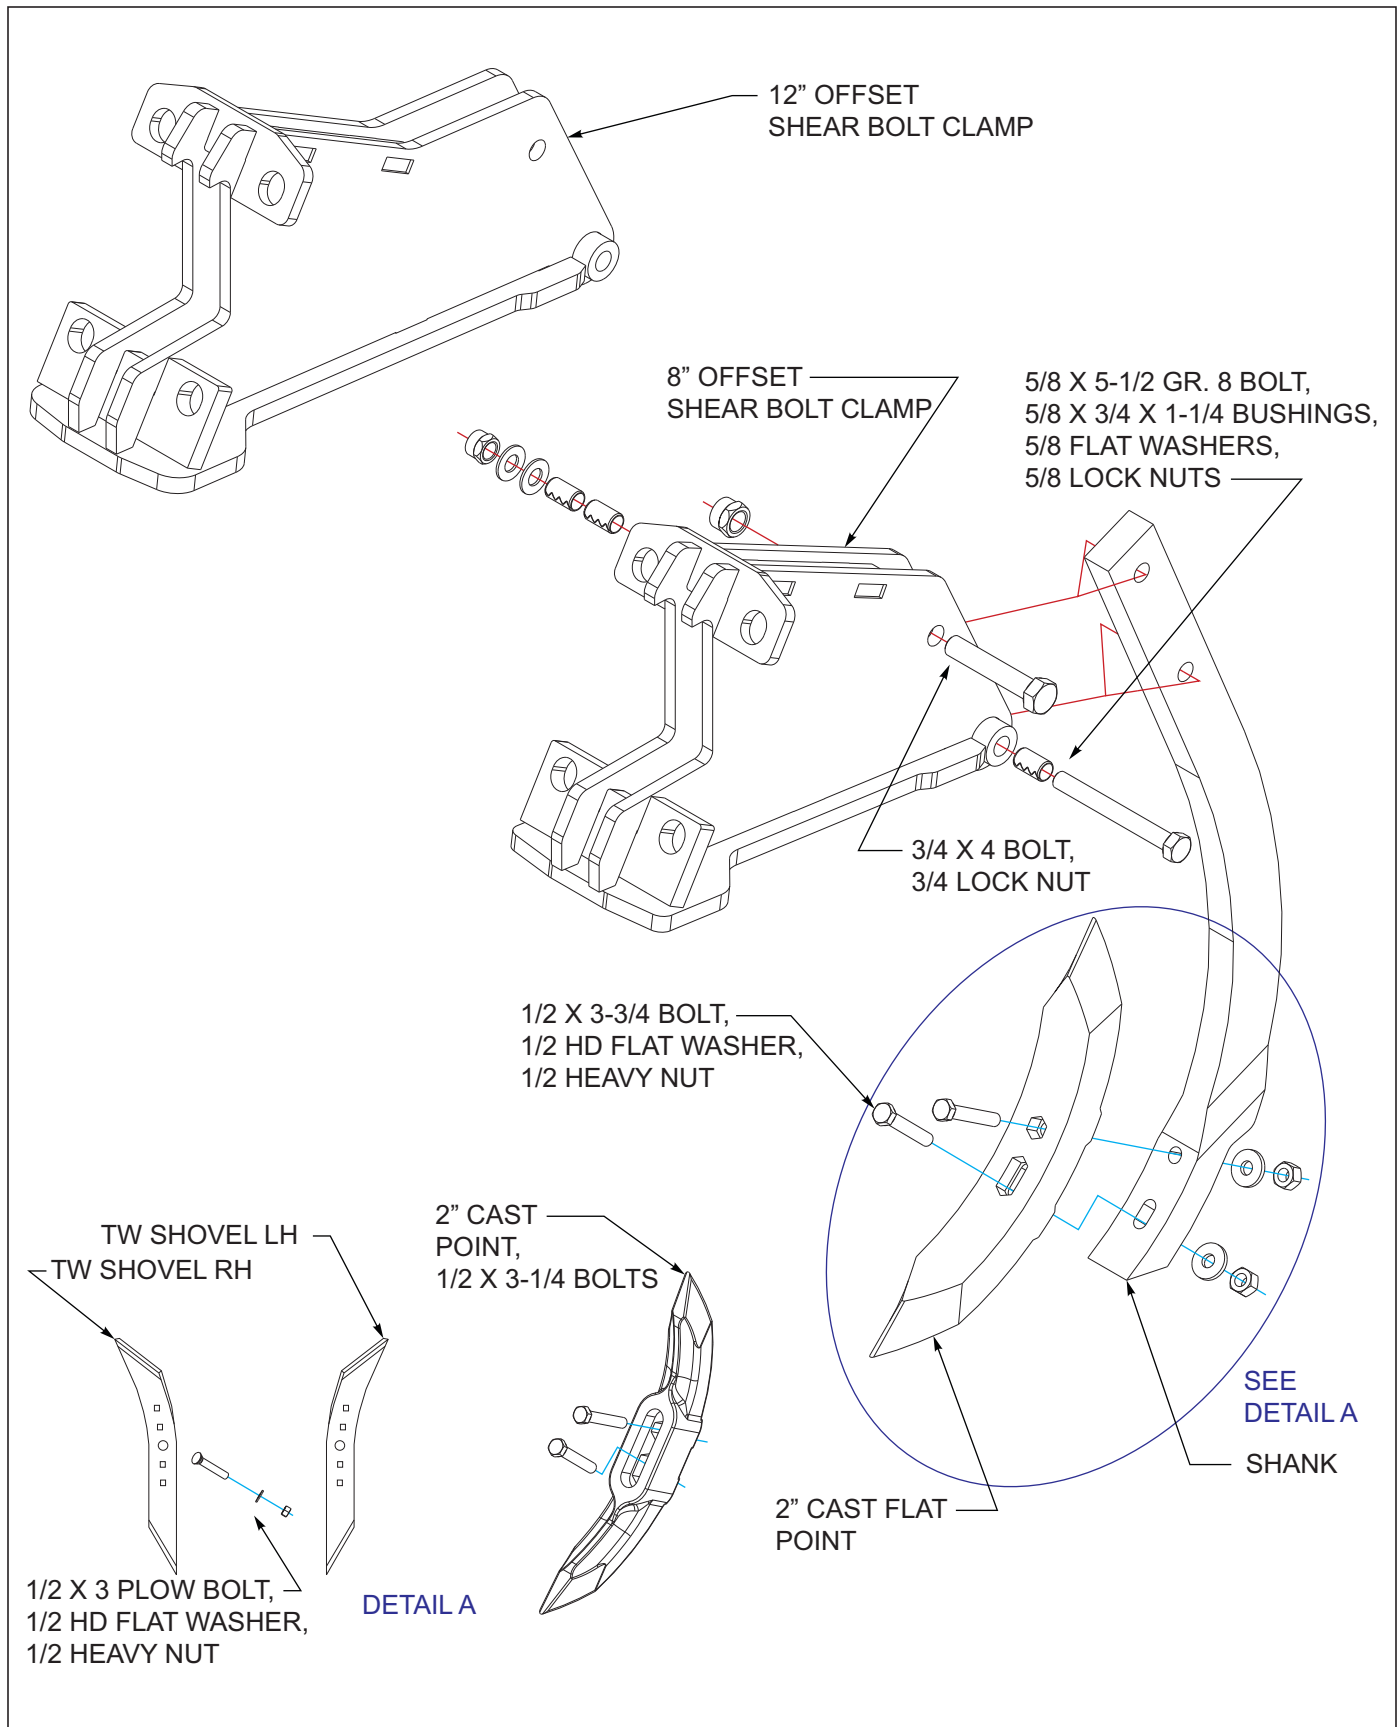

Figure 3-9: Rigid Shear Shank and Shovel Installation
1. Attach shank to each 8" or 12" offset shear bolt clamp assembly using 3/4 x 4 bolts and lock nuts in top hole, use 5/8 x 5-1/2 Gr. 8 bolt, three 5/8 x 3/4 x 1-1/4 bushings, two 5/8 flat washers and 5/8 lock nuts for bottom hole See Figures 3-9.